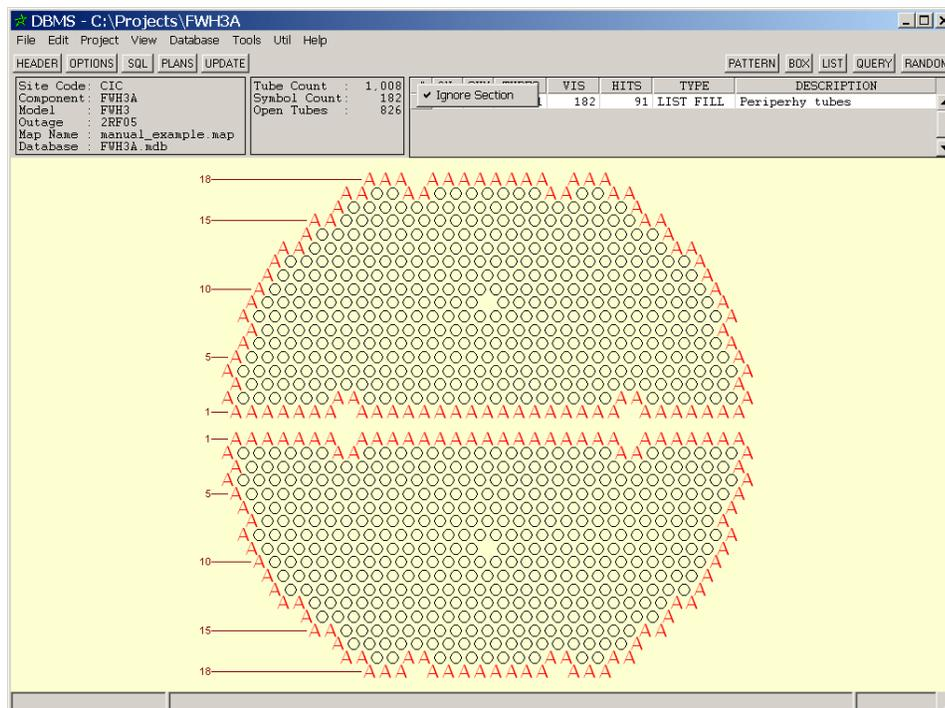

Figure 9-1. Periphery Plan in DBMS Screen
- STEP 6:** Right-click entry number *1* in the # column of the legend and click *Ignore Section* in the popup to enable it. When enabled, a checkmark appears next to *Ignore Section*. The same tubes as in the inlet pass now appear with symbols in the outlet pass as shown in Figure 9-1 below.